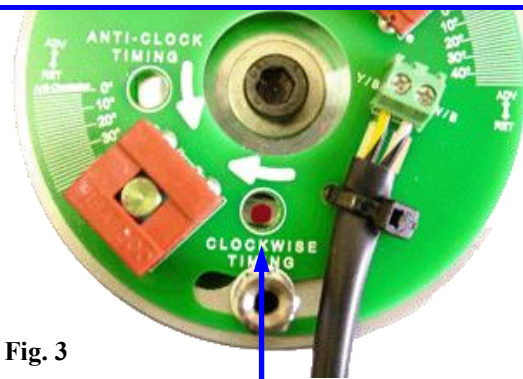

Fig. 3
11. Slacken the centre bolt (metric M6) using a 5mm hex key and position the rotor until one of the red indicator marks can be seen through the appropriate static timing hole in the trigger plate (clockwise for most machines, as viewed from the magnetic rotor side), with the plate positioned midway on its adjustment slots. **See figs. 3/4 on page 9.** [The magnetic rotor centre thread (metric M8) is provided for attaching a puller, if the rotor should need to be removed for servicing, etc.]